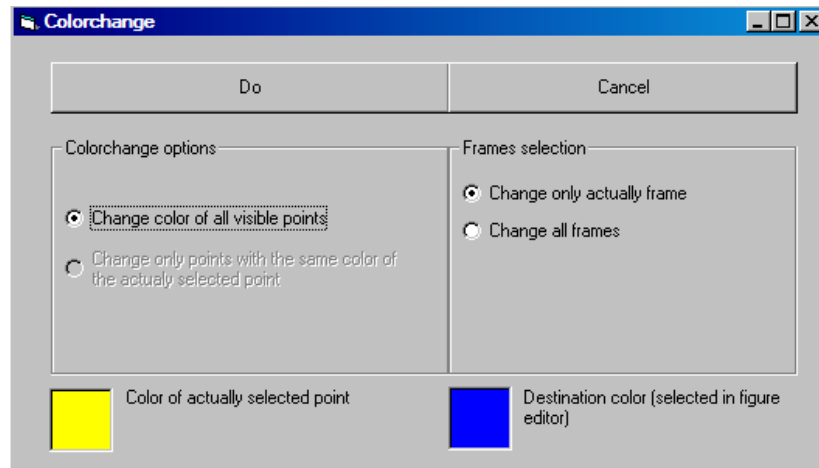

Fig.57: Menu Edit/Color change. Dialog to change colors of points.
3. Now click “Color change”. A dialog to set the options is shown (see Fig.57). Please make your choice and finish with a click on “Do”. If “Color of currently selected point” or “Destination color” are not satisfactory, please click “Cancel” and select the correct colors.